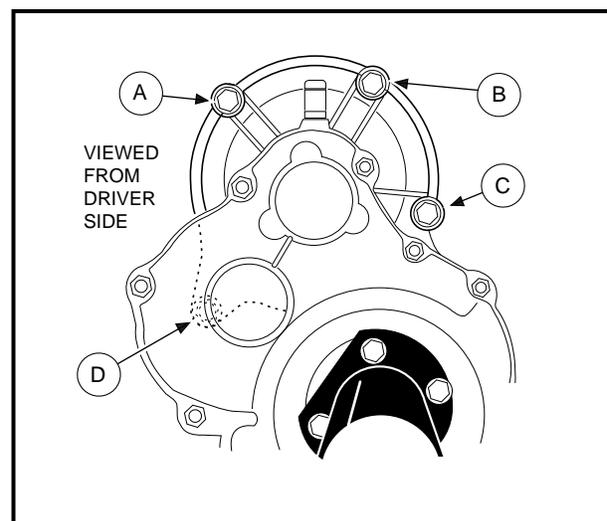

Figure 15-18 Motor Mount
4. Finger tighten the four screws, moving from screw (C) to screws (A, B, and D) until the motor is seated. With one wheel jacked up so it is off the ground, rotate the axle to make sure the motor is not binding on the transaxle input shaft (**Figure 15-18, Page 15-12**).
5. Using a torque wrench, tighten the lower 1/4 in. bolt (C). Now tighten the bolt (A), then tighten the center bolt (B) at the top. Tighten these bolts to 65 in.lb (7.3 N-m). Tighten the bolt (D) to 155 in.lb (17.5 N-m) (**Figure 15-18, Page 15-12**).